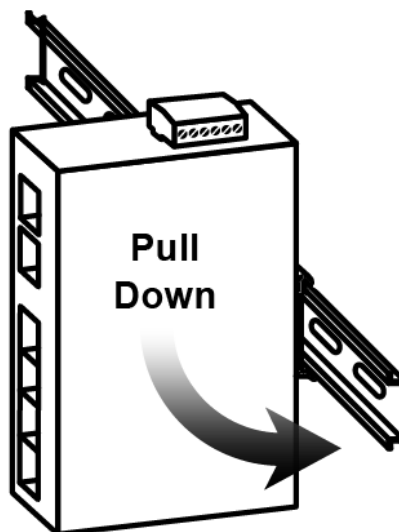

Figure 3.3: Stable the Power Booster on DIN-Rail
Step 4. Lightly pull down the bracket on to the rail as shown below in Figure 3.3.